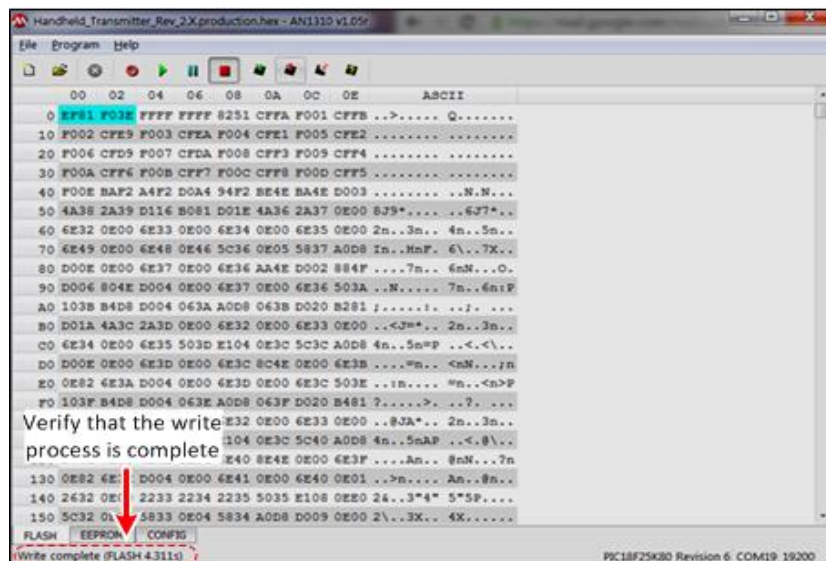

FIGURE 8-5 SERIAL BOOTLOADER PROGRAM – PROGRAMMING FIRMWARE
STEP 9	Click on the “Write Device” button, to program the firmware – see Make sure that the bottom toolbar indicates that the programming was successful – see Figure 8-5.